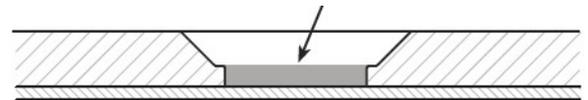

Fig.3
- Put 3-5 drops of oil on the sensor until the oil surface reaches the required height which is indicated in Fig.3
2. The oil surface do not reach the required height as indicated in Fig.3